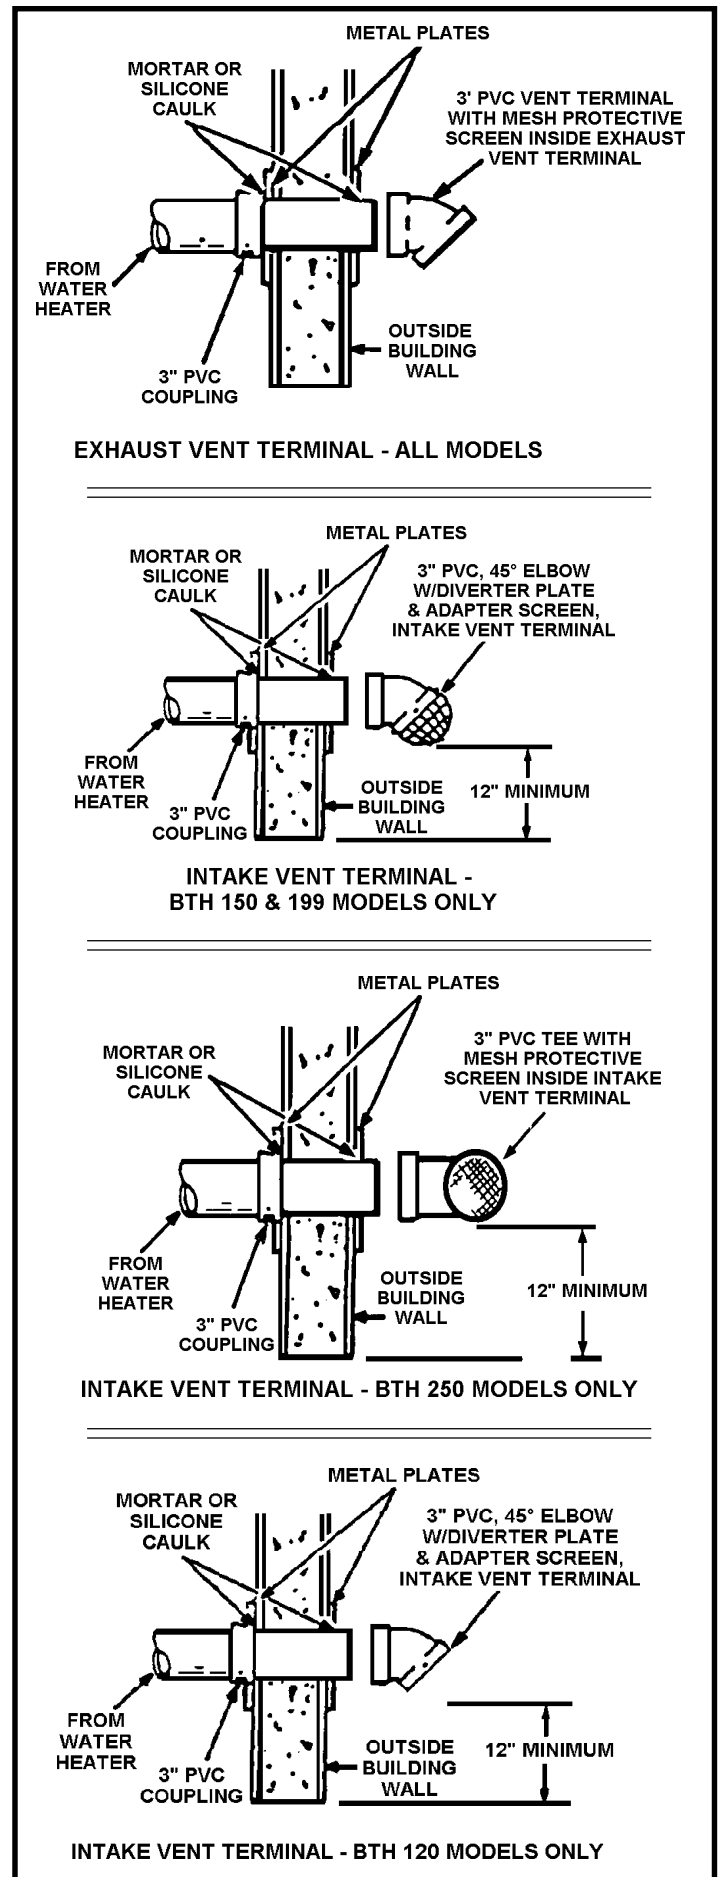

FIGURE 10
8. If the vent pipe is installed up to the wall, with a coupling on the end against the wall opening, the pipe with the vent terminal can be prepared for gluing before inserting through the wall. Slide the pipe through the wall and insert into coupling on the other side of the wall, making sure that the vent terminal ends up pointed in the correct position (Figure 10).